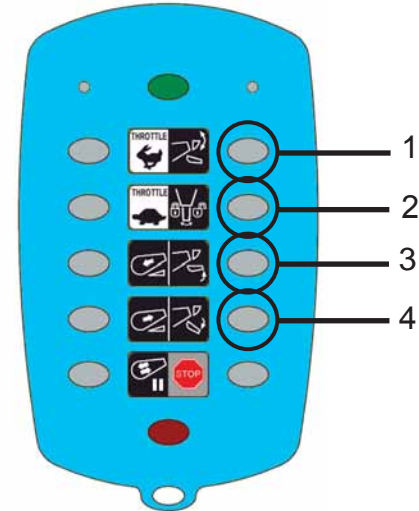

Figure 44
**Hopper Operation:** Push the Hopper button to raise/lower air hopper (option) (Figure 44, Item 1).
**Chute Lock:** Push the Chute Lock button to lock/unlock air chute lock (Figure 44, Item 2).
**Chute Raise Operation:** Push the Chute Raise button to raise chute (Figure 44, Item 3).
**Chute Lower Operation:** Push the Chute Lower button to lower chute (Figure 44, Item 4).